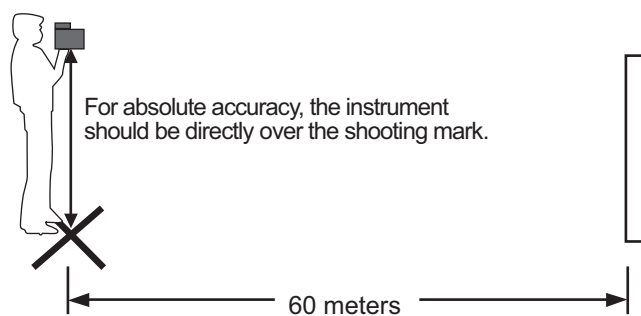

Figure 23
- LTI recommends that the target should be 60 metres from the shooting mark. See Figure 23.